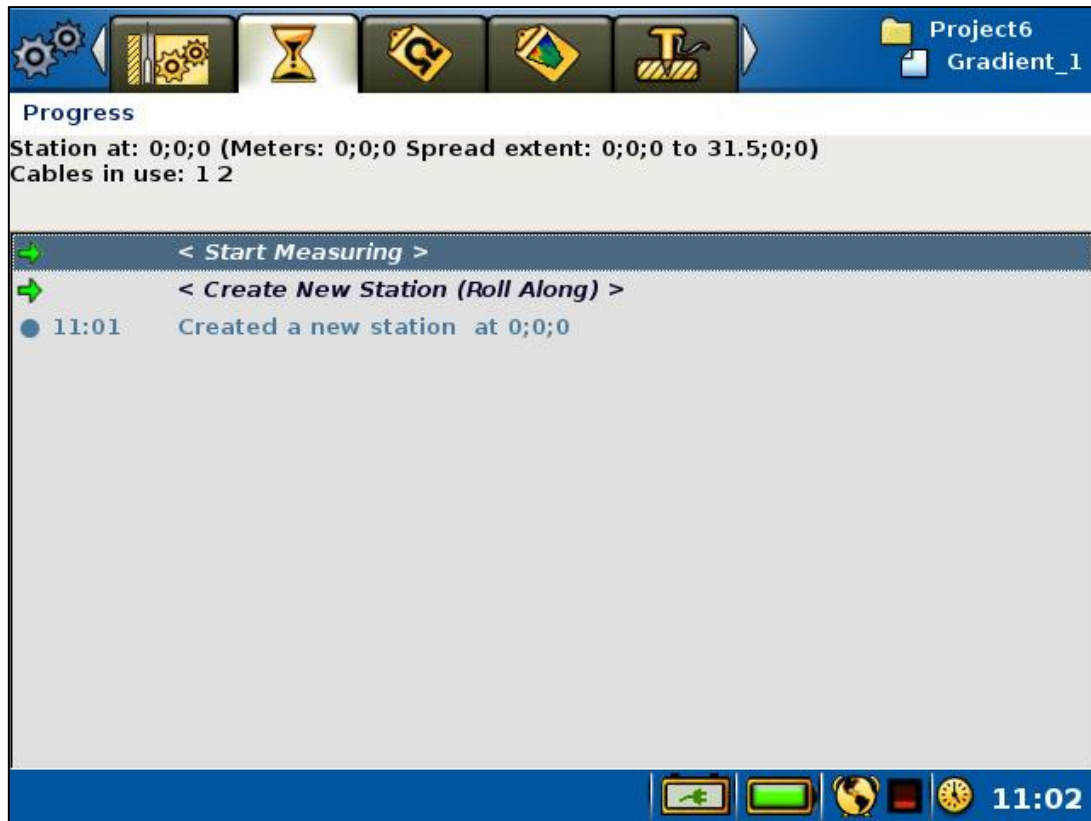

Figure 56 Start Measuring command on measuring progress Page
- Move the highlight to the <Start Measuring> row (Figure 56)